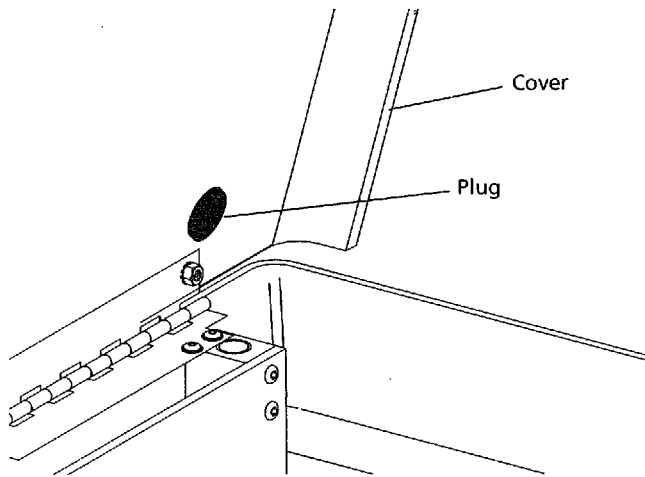
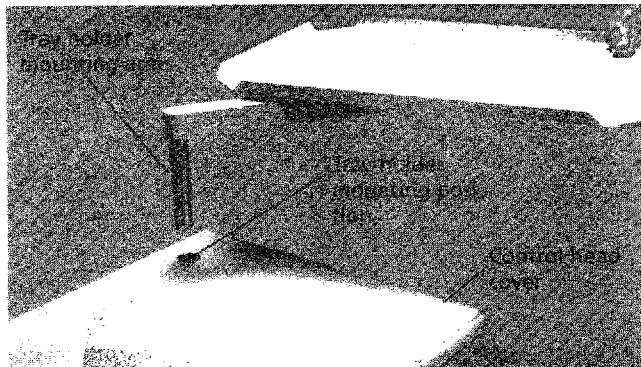

Figure 16. Remove the plug from the cover.
Figure 17. Install the tray holder.
1. Remove one of the plugs from the control head cover (see Figure 16). Install the tray holder as shown in Figure 17.